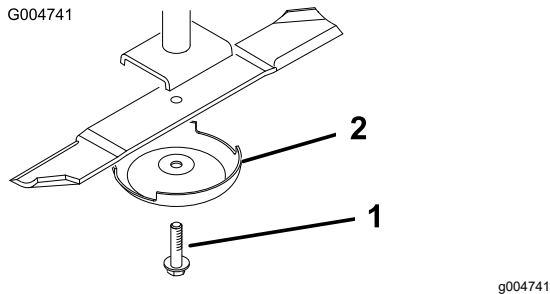

Figure 89
3. Remove the blade bolt, anti-scalp cup, and blade from the spindle shaft (Figure 89).